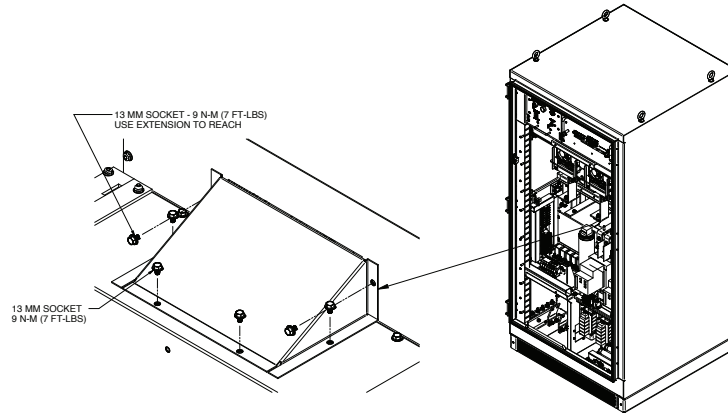

Figure 35. Removal of inductor fan cover.
- ☐ Inductor fan (requires removal of inductor fan cover. See Figure 35.)